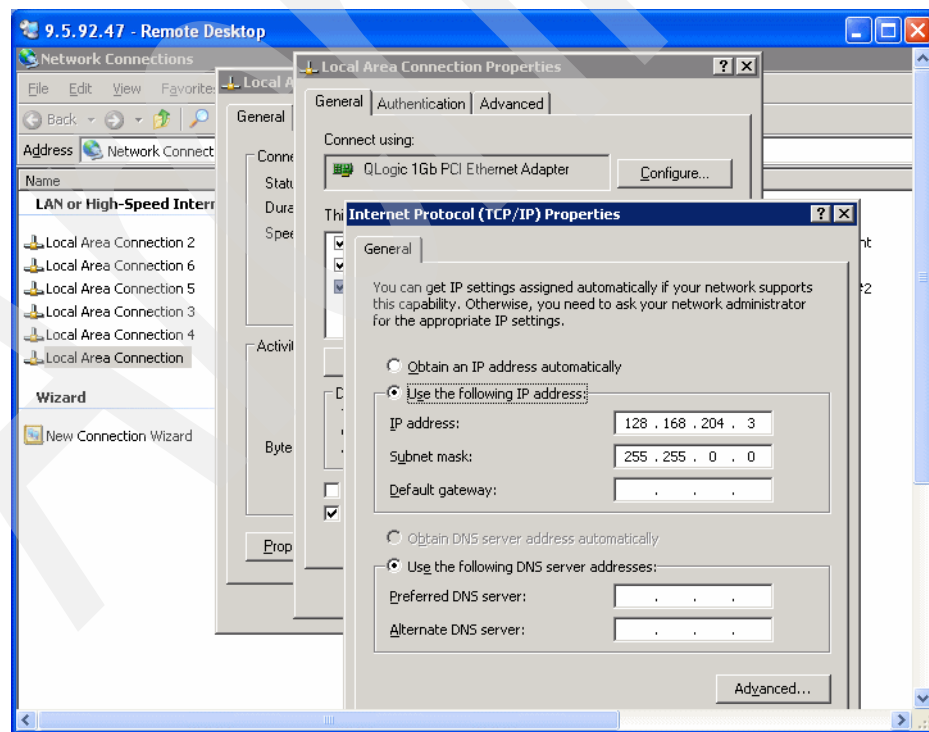

Figure 9-77 Browsing Windows Network Connections (xSeries) - 1
- b. Double-click **Internet Protocol (TCP/IP)** and you see a window similar to the one shown in Figure 9-77.
Figure 9-77 on page 448 shows the IP address of the Virtual Ethernet LAN side of the initiator HBA port. This is the address you assigned to it when you configured the network interface in the RMTSYS configuration object. Take note of the IP address, because you need it later in order to redeploy the Virtual Ethernet LAN to this initiator HBA port.